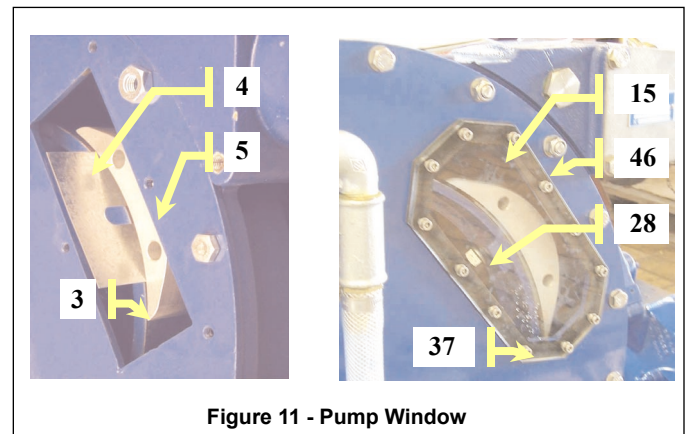

Figure 11 - Pump Window
- Unscrew the bolts (37) and remove the washers (38), the window (15) and its gasket (46). See Figure 11.
- Loosen the shoe bolts (28). **NOTE:** DO NOT remove the shoe bolts.
- Insert the correct number of shims (4) through the window opening. Refer to "Shimming Table" for correct number of shims required for the application.
- Reinstall the window gasket (46), the window (15) and the washers (38). Install and tighten the bolts (37). Figure 11.